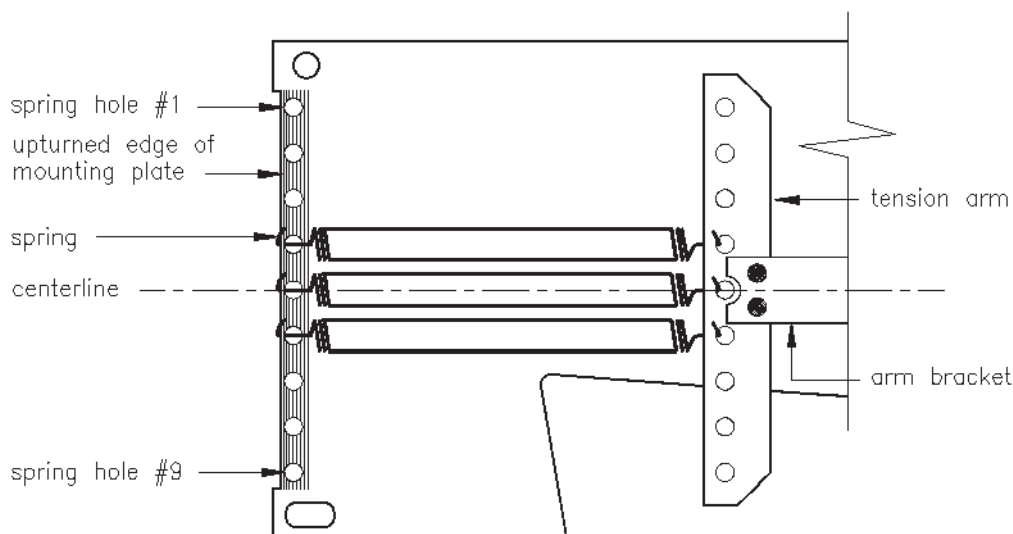

Figure 5. Installing the Springs. Viewed is the Right Lift Mechanism.
As **Figures 5 and 6** on the following pages show the Right Lift Mechanism, you should start with that one.
- Notice that the hook ends of the springs have slightly different sized openings. Hook the end of the spring that has the smallest opening under the upturned edge of the Mounting Plate. Lay the spring down and slide it under the matching hole in the Tension Arm. Be sure to install the springs so that the hook openings face you, see **Figure 5**.
*Ideally, you should install an equal number of springs on each side of the centerline. However, an imbalance by one spring is all right, preferably with the extra spring on the topside. The last spring installed should be #9, if required. See **Figure 5**.*